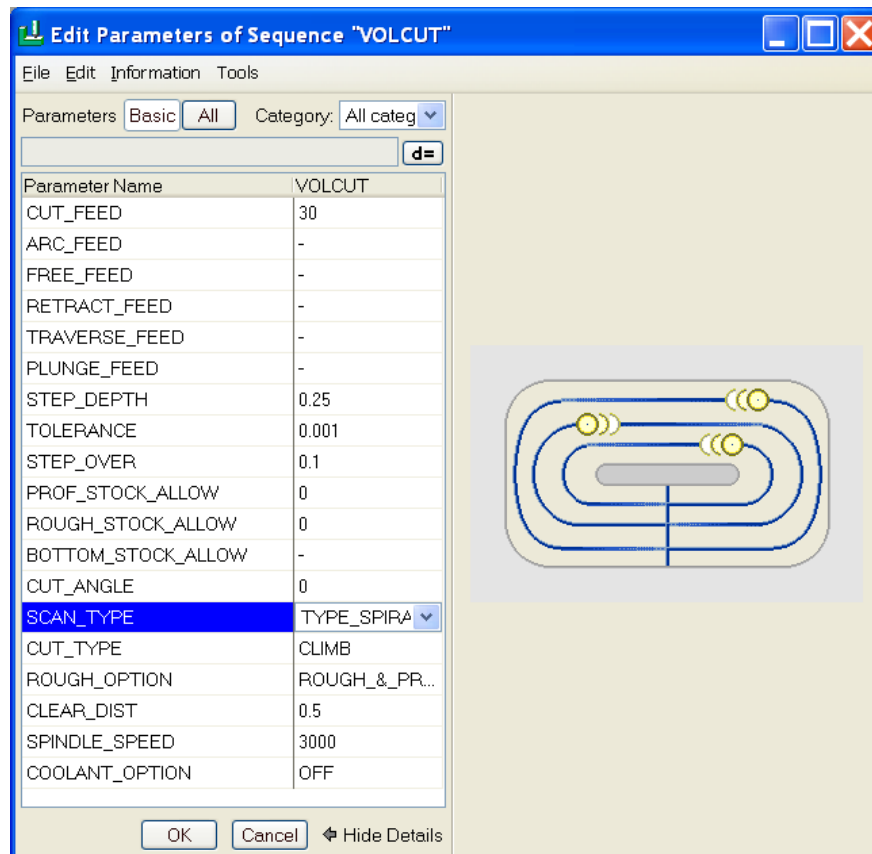

Figure 1.33
5. Edit Parameters window pops up. Input or change the values as shown in Figure 1.33. File → save as to file called “milprmVol” → click OK to exit.
5. Edit parameters window pop up. File → open → select milprmVol → open → Ok (see figure 1.33).